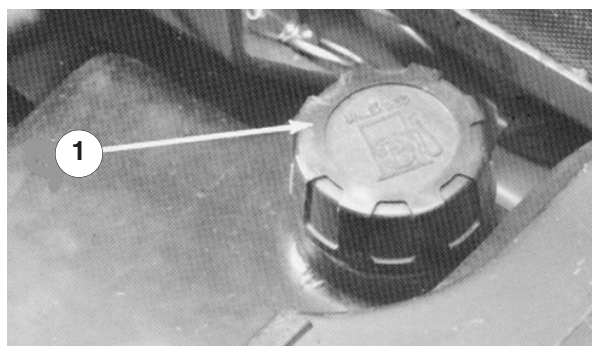

Figure 5
1. Tip the seat forward and prop it with the support rod so it cannot fall accidentally. Using a clean cloth, clean area around the fuel tank cap (Fig. 5).